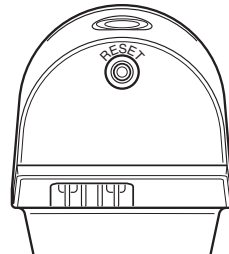

Figure 8
- If eave mounted, mount the fixture with sensor facing away from the house wall. Rotate the sensor so the RESET button (see Figure 8) faces the ground.
- Reset Button (see Figure 8) – Use a paper clip to press the RESET button for 15 seconds to reset the light.